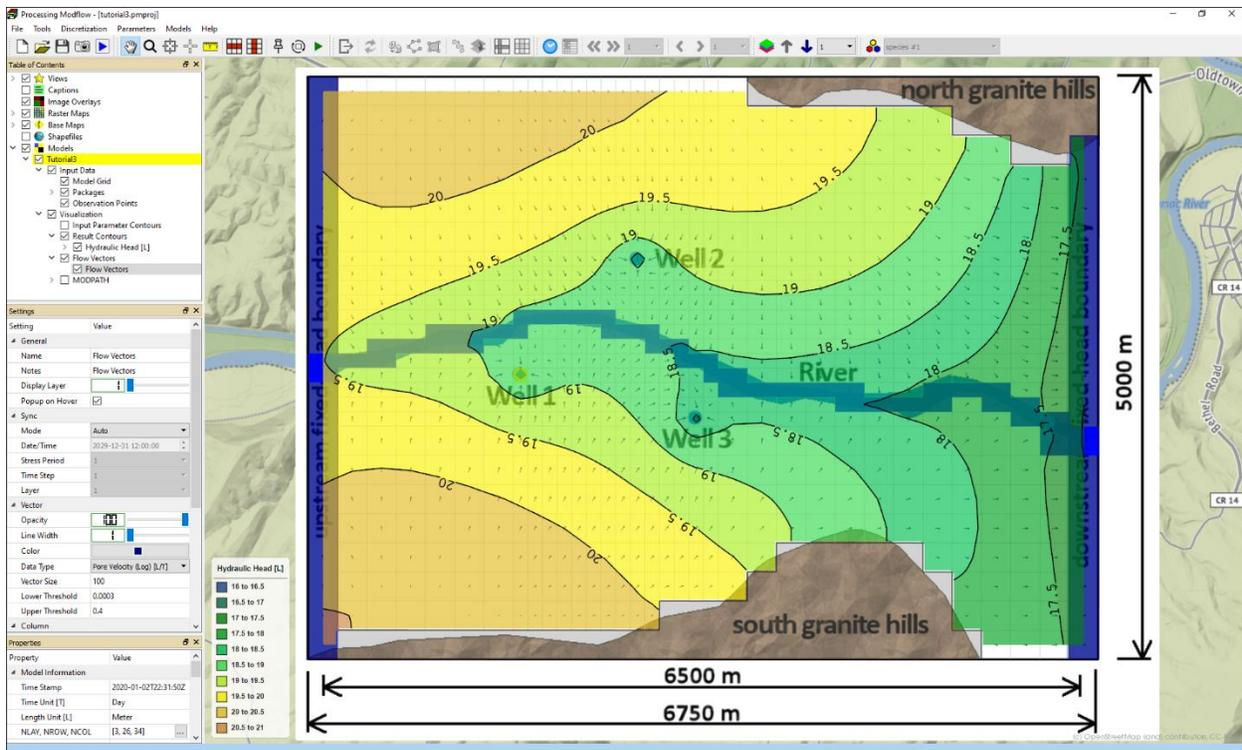

Figure 15. Flow vectors and color-filled hydraulic contours.
1. Right-click on Visualization > Flow Vectors of the model item on the TOC and select Add from the popup menu. A Flow Vectors item is added to the TOC and the flow vectors are displayed on the Map Viewer. The flow vectors in Layer 1 should look like Figure 15.